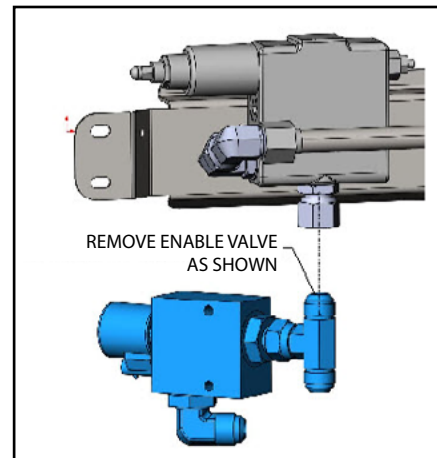

Figure 13 - Disconnect Enable Valve and Fittings
1. Remove enable valve and fittings after the 90° fitting (Figure 13).